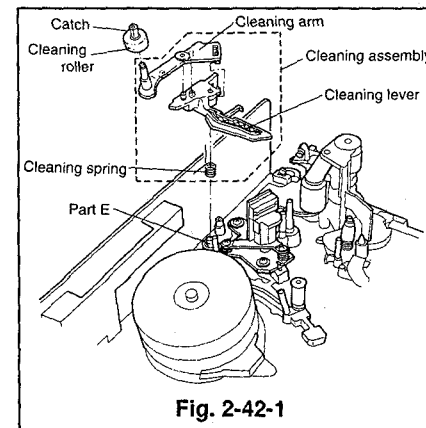
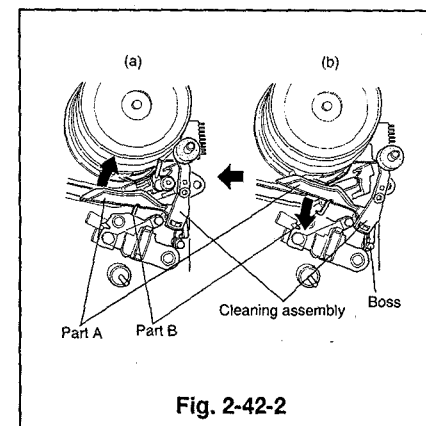
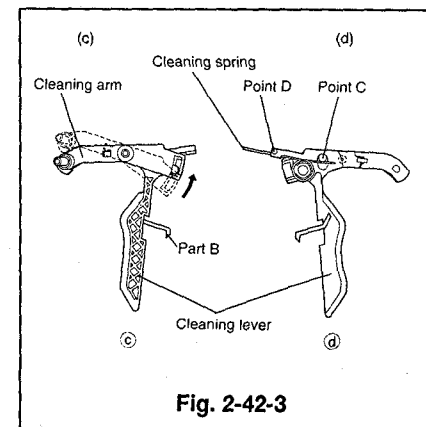

Fig. 2-42-1
Fig. 2-42-2
Fig. 2-42-3
- ① Remove the PCB-HA/AUDIO. (Refer to Para. 2-8 for the removal method.)
- ② Unfasten the catch to remove the cleaning roller. (Refer to Fig. 2-42-1)
- ③ Turn part A of the cleaning assembly clockwise as shown in Fig. 2-42-2 to release the catch part B (Fig. 2-42-2 and Fig. 2-42-3(c)). Release the catch part E and remove the cleaning assembly from the shaft.
- ④ Remove the cleaning spring to detach the cleaning arm and the cleaning lever.
- ① Attach the cleaning arm to the cleaning lever and turn it clockwise as shown in Fig. 2-42-3(c). Make sure that the cleaning arm and the cleaning lever turn without binding.
- ② Hook one end of the cleaning spring with the boss (point C), projecting from the cleaning arm, and the other end to point D of the cleaning lever as shown in Fig. 2-42-3(d).
- ③ Place the cleaning assembly in the position shown in Fig. 2-42-1, and in the direction shown in Fig. 2-42-2(b). Turn the part A, shown in Fig. 2-42-2, counterclockwise to set the part B under the A/C plate of the A/C head assembly. Make sure that the spring hooks with the boss of the main plate shown in Fig. 2-42-2. Shift the part A in the direction shown by the arrow and release to make sure that it returns.
- ④ Insert the cleaning roller into the position shown in Fig. 2-42-1 to install it.